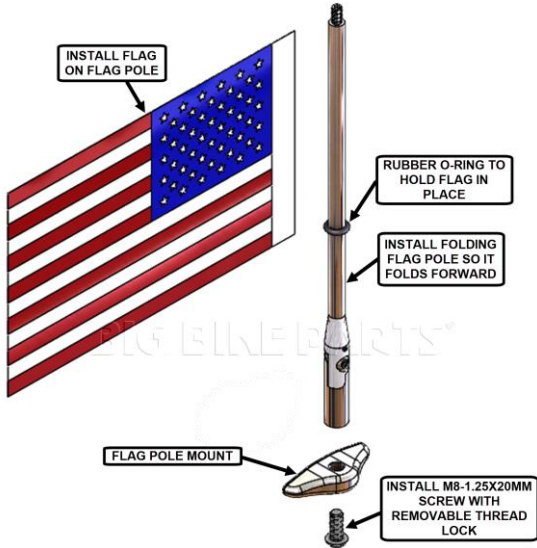

FIG. 5
13. REMOVE THE BACKER FROM THE DOUBLE SIDED TAPE ON THE FLAG POLE MOUNT (FIG. 5). (**BE SURE NOT TO TOUCH THE ADHESIVE ON THE DOUBLE SIDED TAPE BEFORE INSTALLING THE FLAG POLE MOUNT IN PLACE**)
14. CAREFULLY START THE TWO SCREWS FROM STEP 9 IN THE FLAG POLE MOUNT (FIG. 5) TO POSITION THE MOUNT. (**DO NOT LET DOUBLE SIDED TAPE TOUCH THE TRUNK YET**)